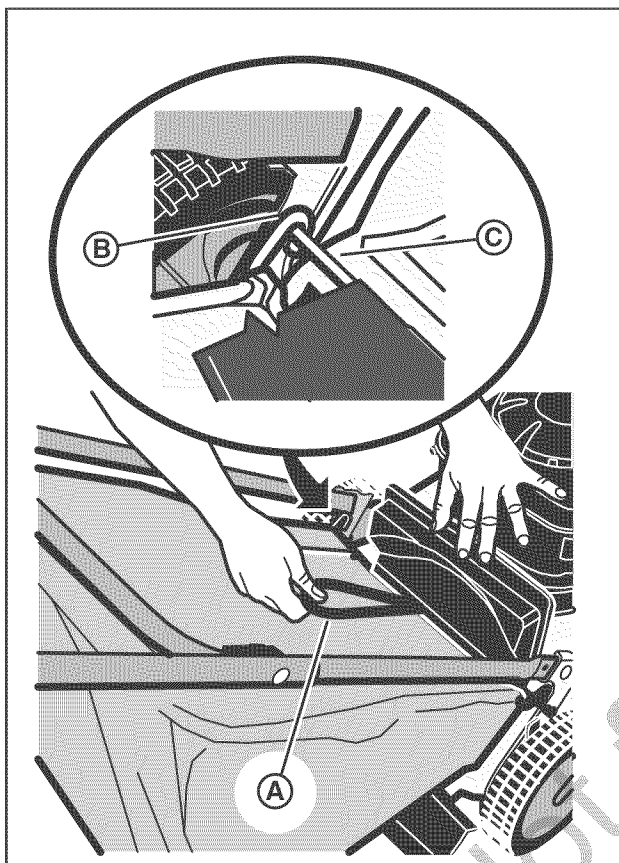

Figure 11: Installing the grass bag
3. Holding the grass bag handle (A, Figure 11), install the grass bag onto the mower, making sure that the grass bag hooks (B) are hooked onto the rear door pivot rod (C).